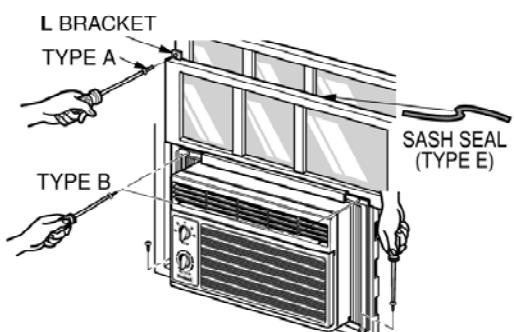

Figure 31
Extend the guide panels (TYPE F) to fill the window opening using 4 screws (TYPE B) to secure them, as shown in Figure. 31.
- Cut the sash seal (TYPE E) to the window width. Stuff the sash seal between the glass and the window to prevent air and insects from getting into the room, as shown in Figure. 31.
- Fasten the L bracket using a (TYPE A) screw, as shown in Figure. 31.